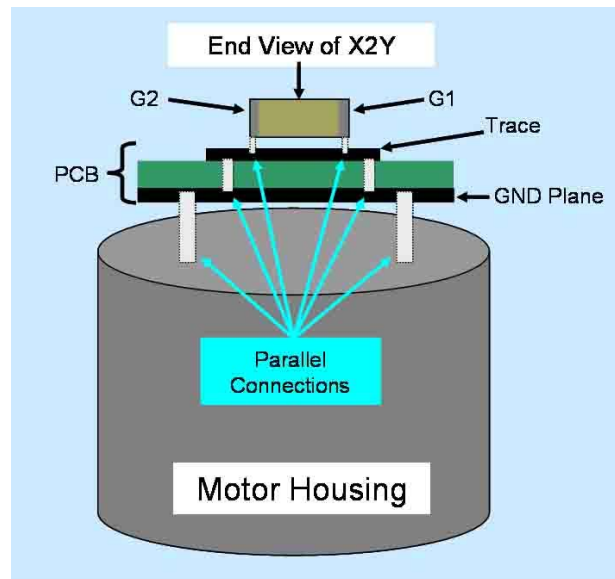

**Figure 20.** Multiple or parallel connections to ground reduce the total impedance between the component and ground.
**Principle #4 – Dual Ground Connection throughout Motor.** This concept is probably the easiest one to understand, but the most neglected of all. Dual or multipoint grounding is when more than one connection to ground is made (left Figure 20). The benefit of having multiple contacts to ground is that the connections are in parallel.
component and ground by a ratio of  $\frac{L}{\text{Total \# of Contacts}}$ . The total inductance between the component and ground in Figure 20 is  $L/3$  or reduced by one-third.